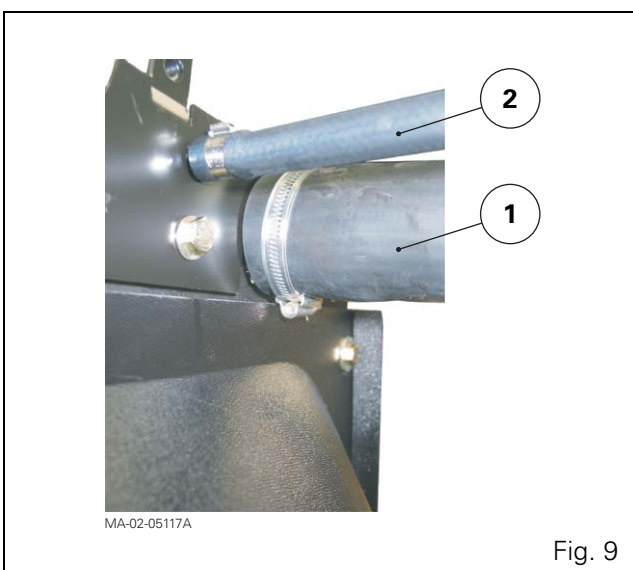

Fig. 9
- the upper hose (1) and the hose (2) linking the expansion tank to the top of the radiator (Fig. 9).